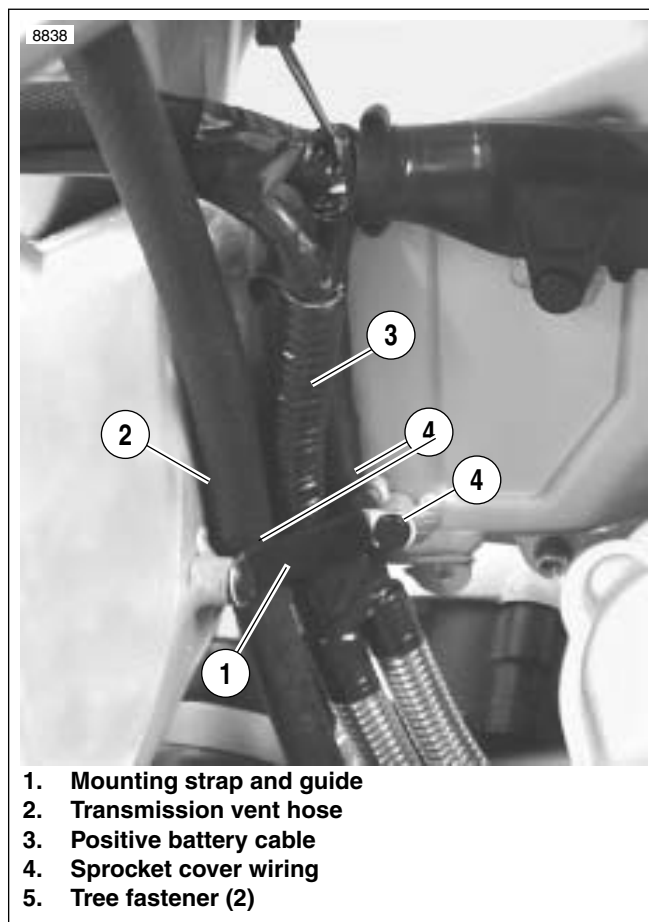

Figure 7-83. Wire Harness Strap and Guide
7. See Figure 7-83. Route portion of main wire harness that contains the positive battery cable (3), sprocket cover wiring (4) and transmission vent hose (2) through corner mounting strap and guide (1) at rear of frame. Install **new** plastic tree fasteners.